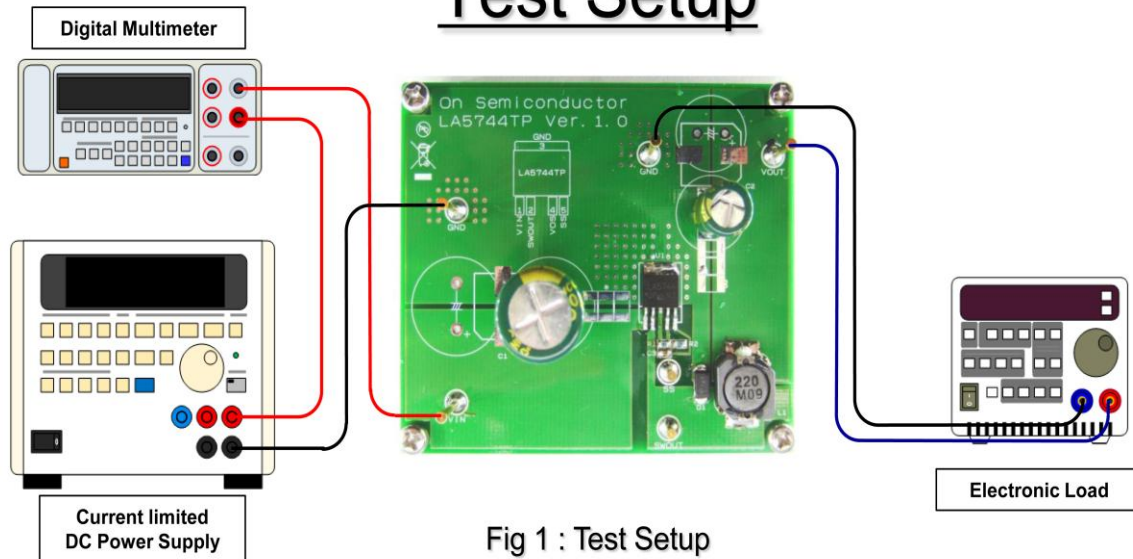

Fig 1 : Test Setup
- ❑ Connect the test setup as shown in Figure 1.